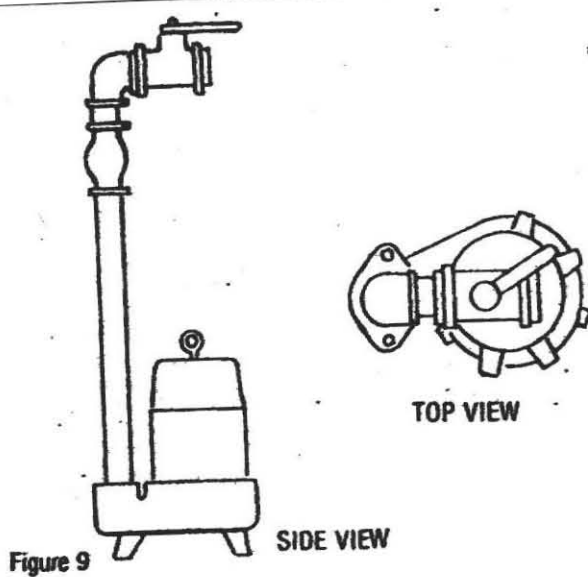

Figure 9
C. The pipes are now ready to cement. Make sure that the pipes are positioned in correlation to pump as shown in Fig. 9.
D. Use a good grade PVC cement. All parts should be clean. Apply a liberal coat of cement on both parts to be mated. Assemble parts and make ¼ twist. Make sure parts are aligned per Fig. 9 before cement sets up.